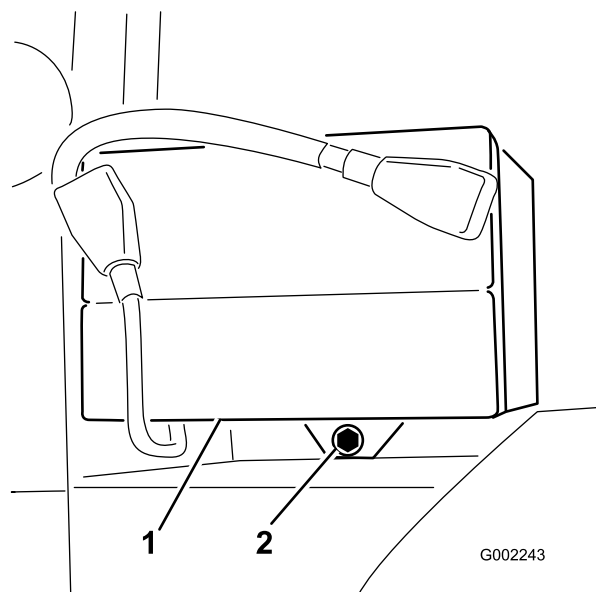

Figure 47
2. Remove the battery retainer and fasteners (Figure 47).
3. Install the battery retainer and secure it with the fasteners you removed previously (Figure 47).